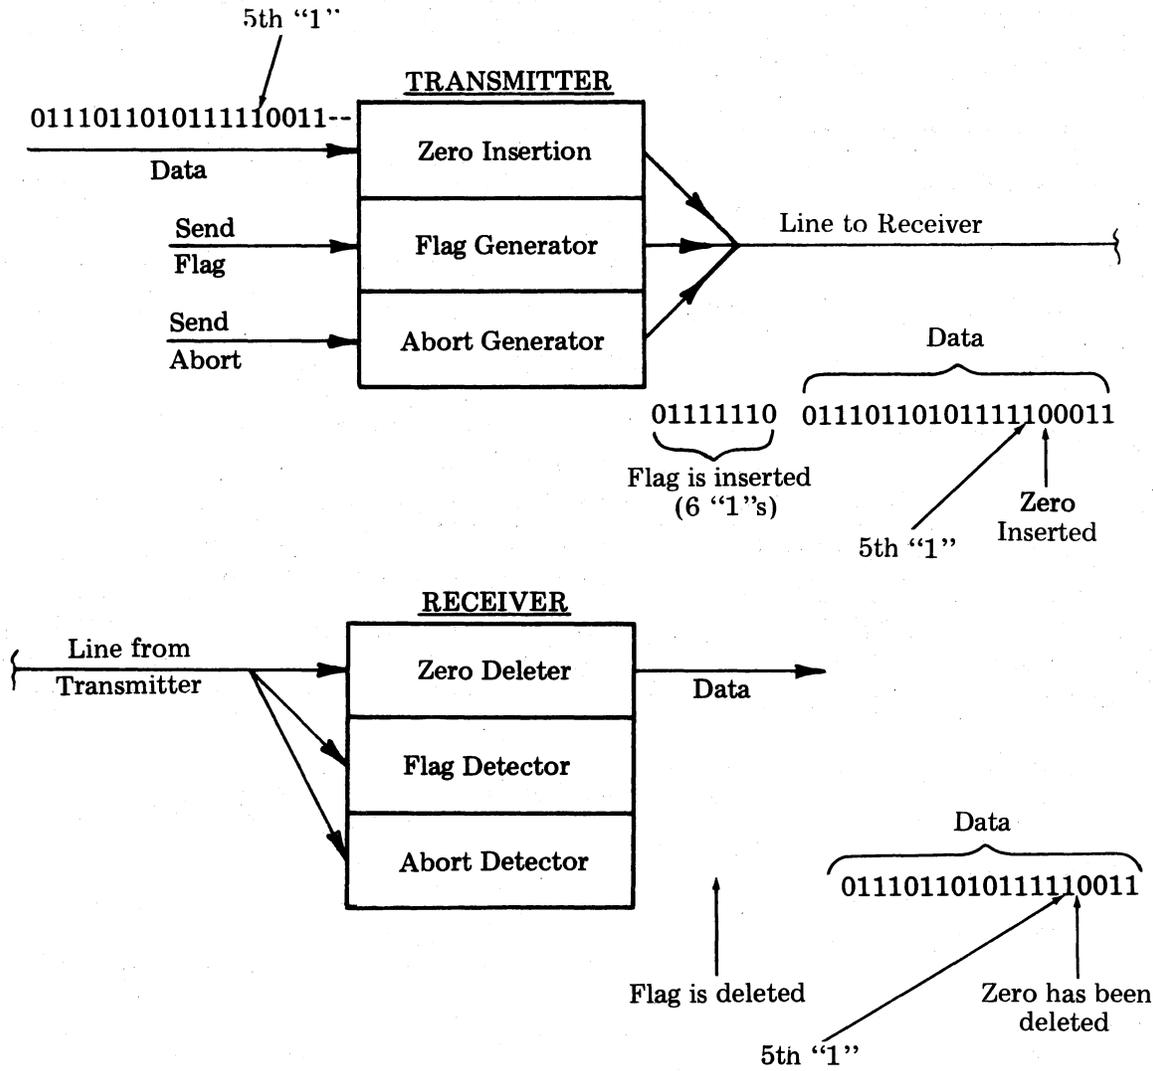

Fig. 22—Zero Insertion and Deletion
9.13 The end Flag signifies the end of the frame. Zero insertion is done between flags to prevent a byte being incorrectly detected as a flag (binary 01111110) or an abort (seven contiguous binary 1's). Zero insertion occurs when the sending station inserts a binary 0 after transmitting a succession of five contiguous 1's. The receiving station then deletes any 0 which follows a succession of five contiguous 1's. See Fig. 22.